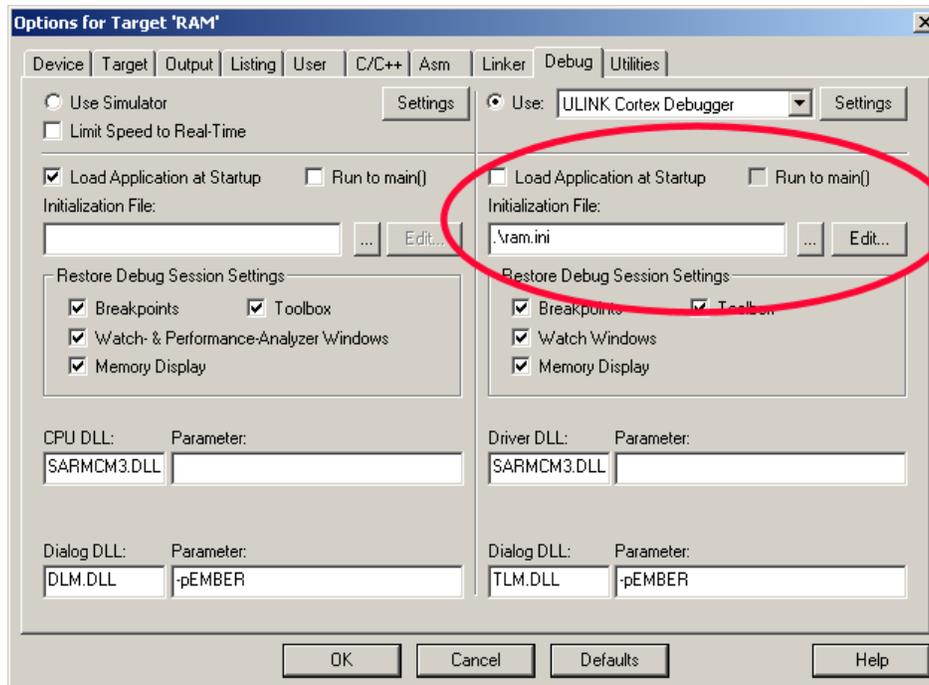

Figure 31: Selecting ram.ini
10. Open the Target Options menu.  The Target tab will be selected as in Figure 31.
14. Enter ROM Start 0x2000 0000 and size 0x8000 as shown in Figure 31. Enter RAM Start 0x2000\_8000 and size 8000 as shown in Figure 31. Do not click on OK yet.